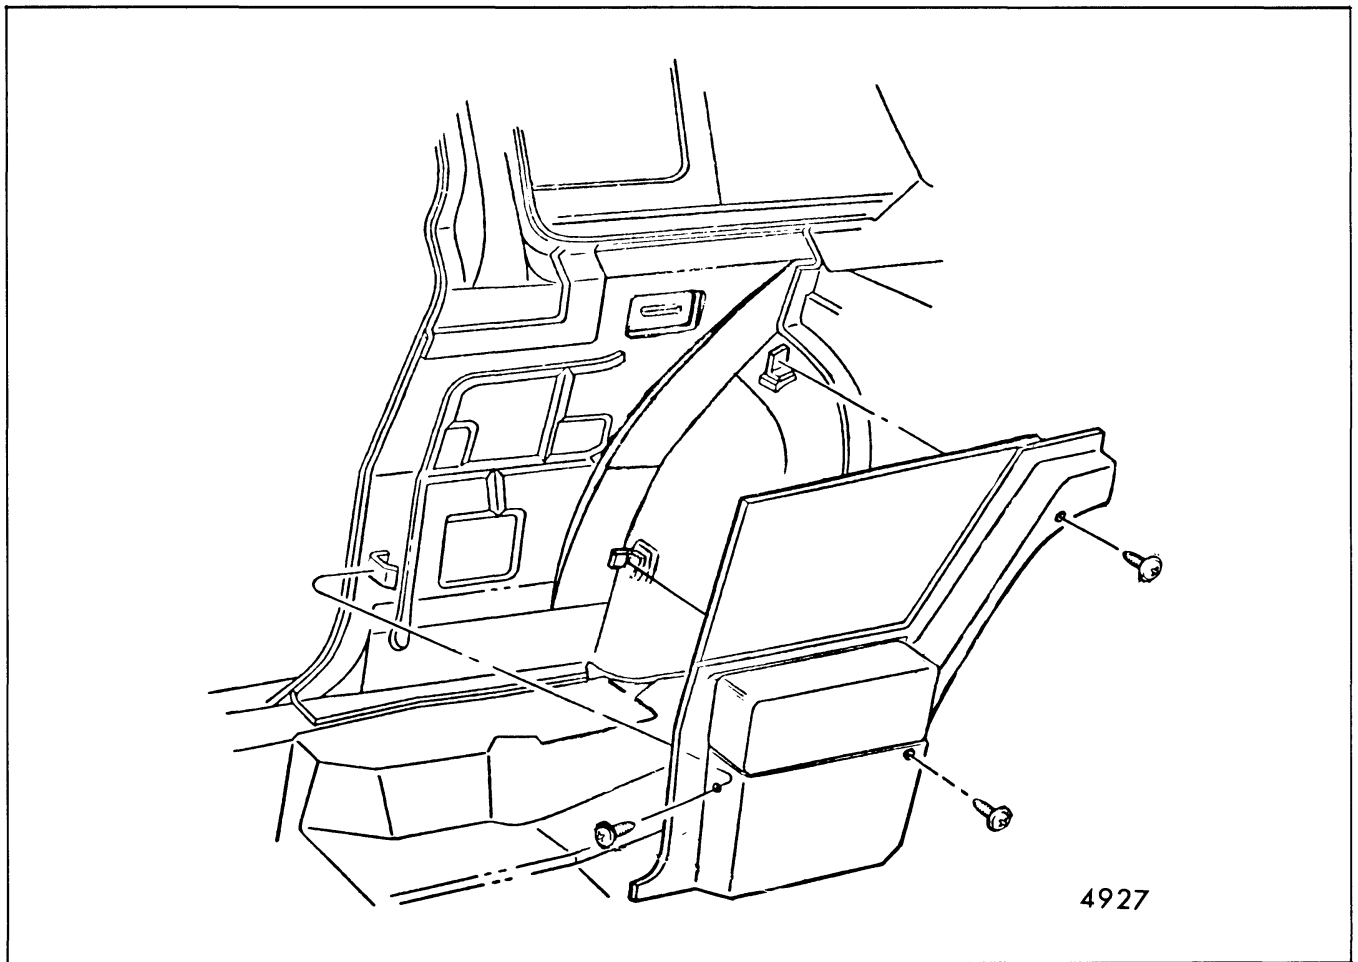

Fig. 6-7-Quarter Trim Assembly Attachment - "A" Styles
4. On "A" styles, remove three (3) attaching screws securing panel assembly to brackets (Fig. 6-7).